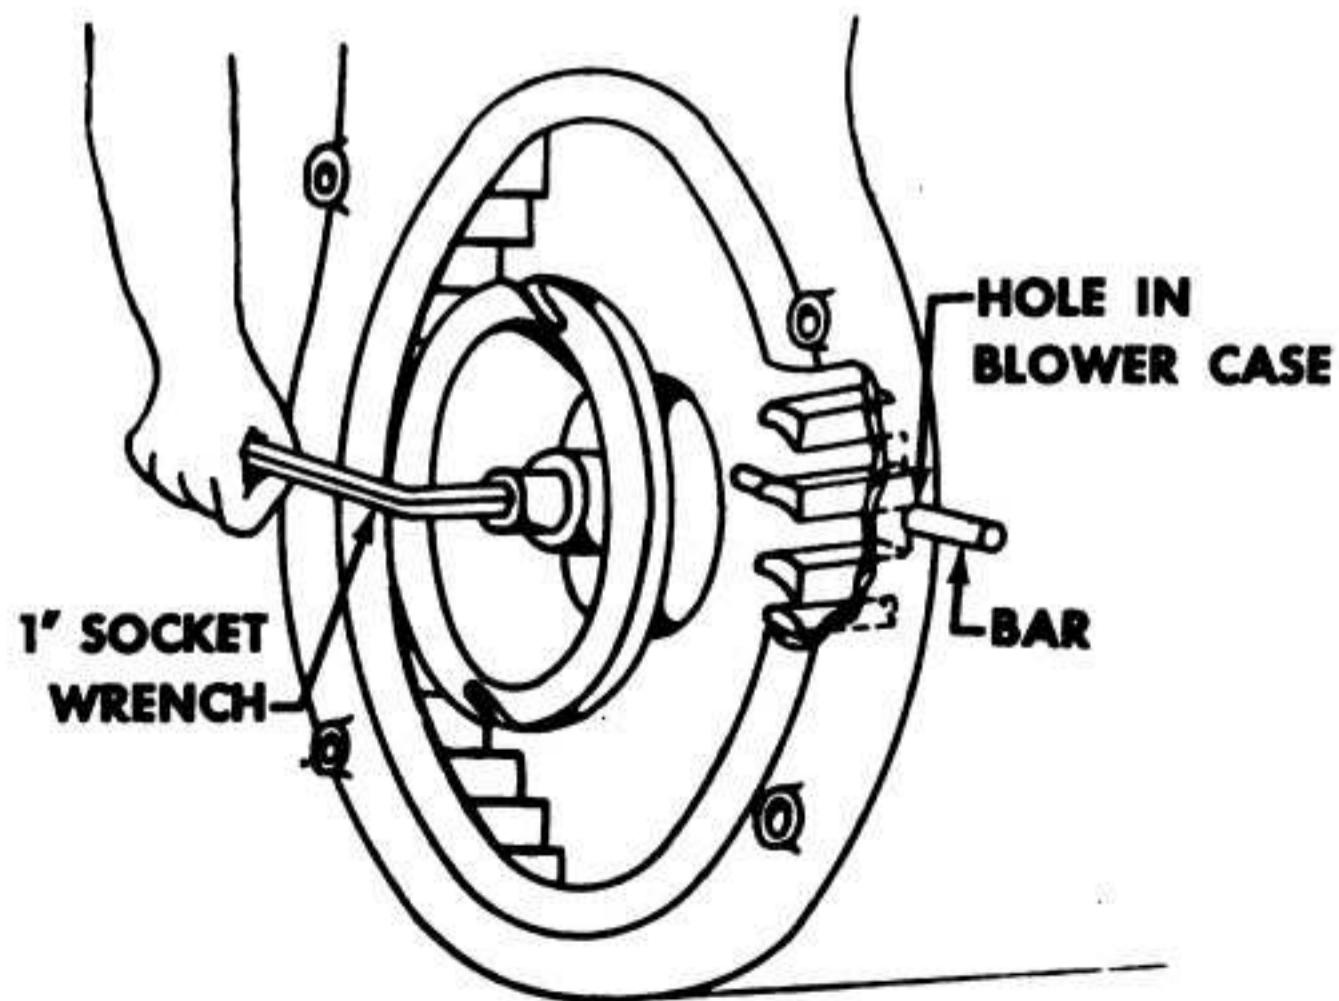
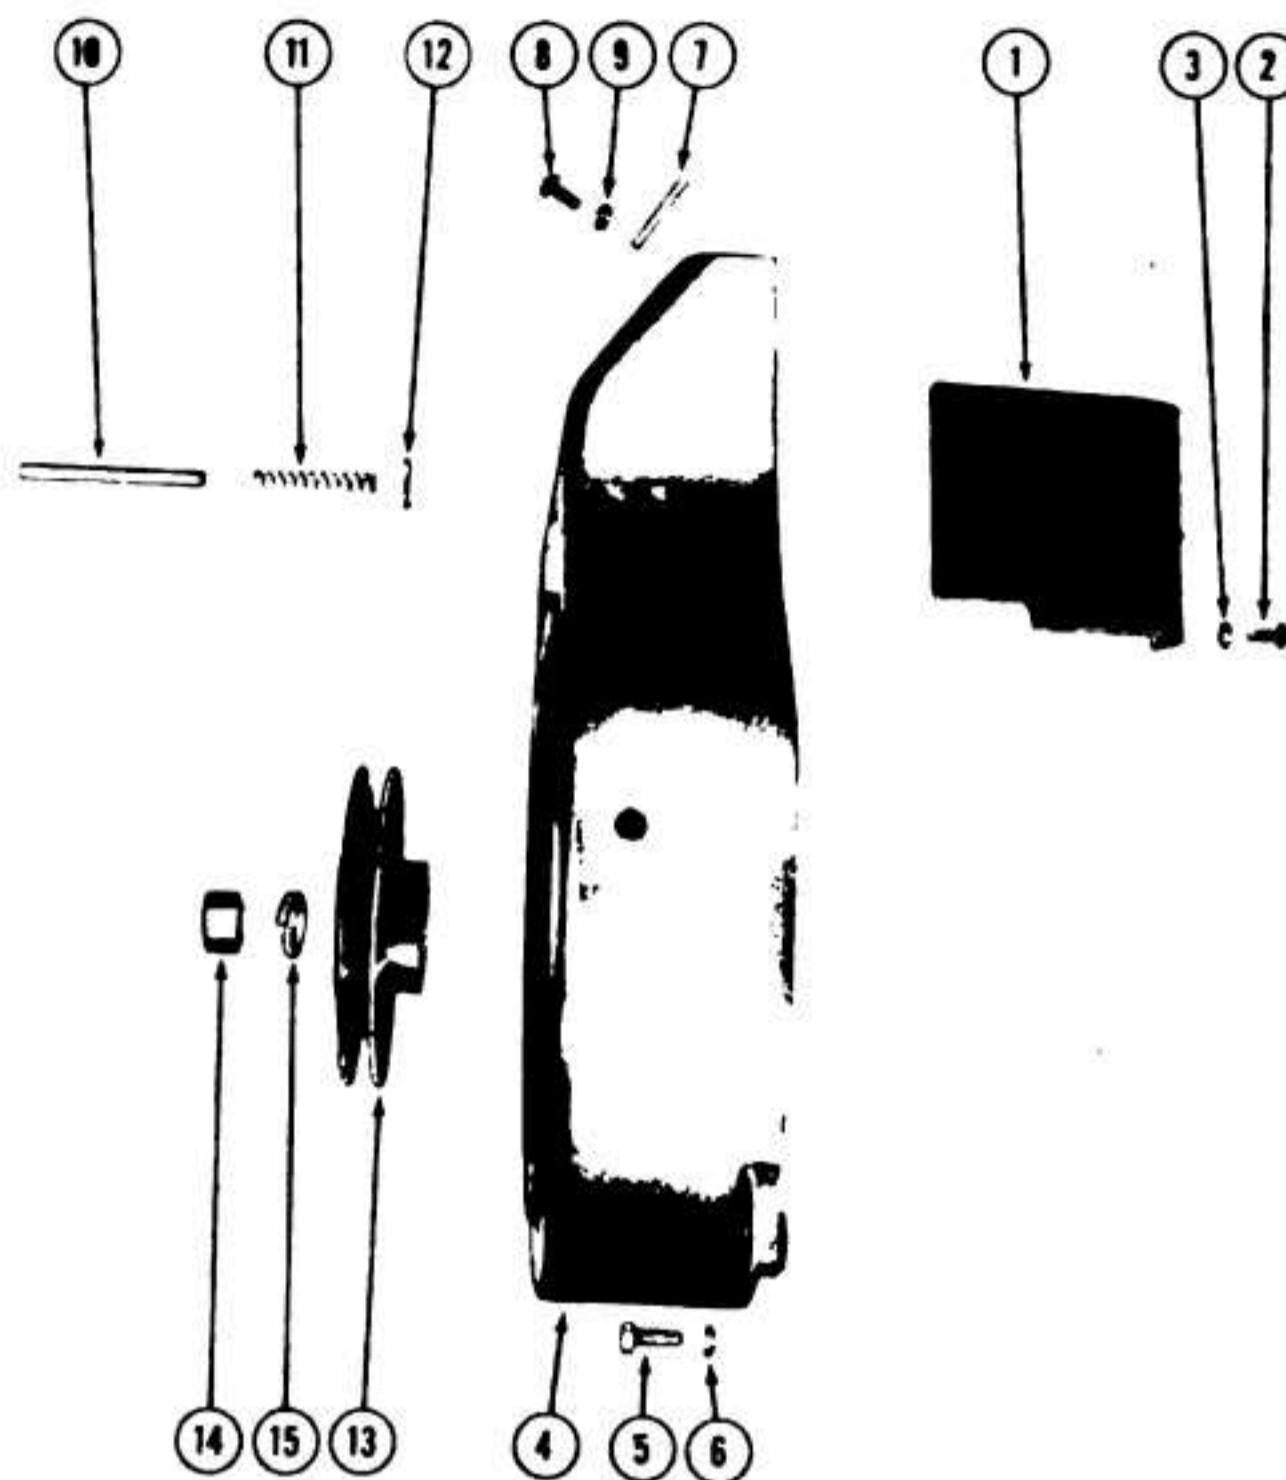

Figure 31—Removing Pulley Nut
Figure 32—Exploded View of Blower Housing
- (1) Place a rod or punch through the hole in the blower housing at fuel tank side so that it passes between fins of the flywheel to hold the flywheel and prevent its turning when pulley nut is loosened. (See figure 31.)
- (2) Use a 1-inch socket wrench with a T- or L-handle and tap handle to loosen nut; remove the nut and lockwasher.
- (3) Remove the blower housing. (See figures 32 and 33.)
- (4) Remove the two screws in the flywheel, and use a puller to remove the flywheel.